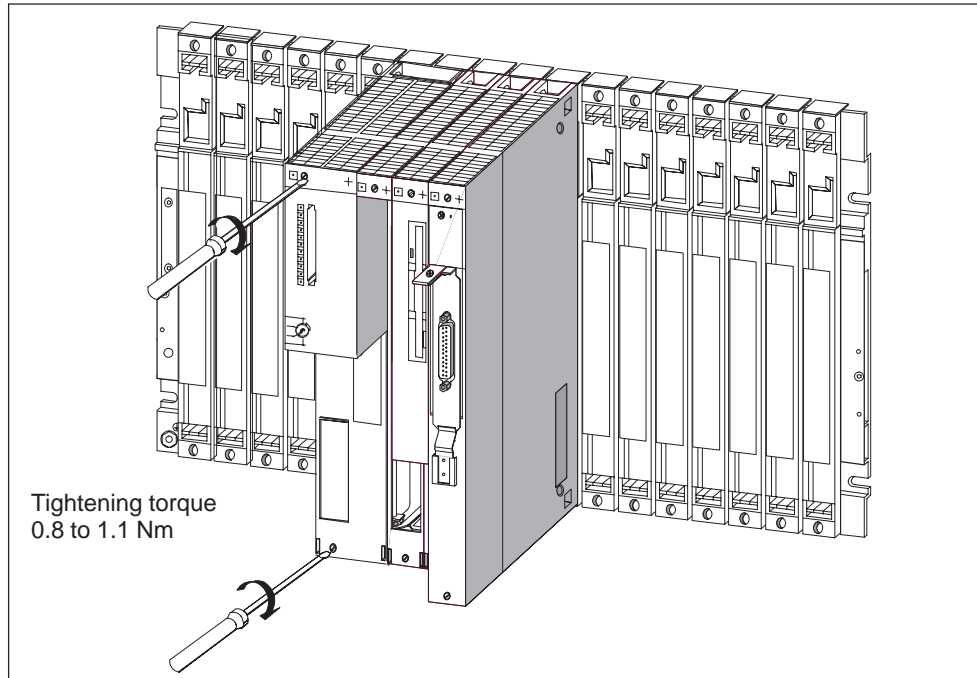

Figure 2-11 Screwing the Modules On
5. Screw the module or all modules in a module assembly to the rack at the top and bottom with a torque of 0.8 - 1.1 Nm (see Figure 2-11).
Figure 2-11 shows how to screw the modules on.